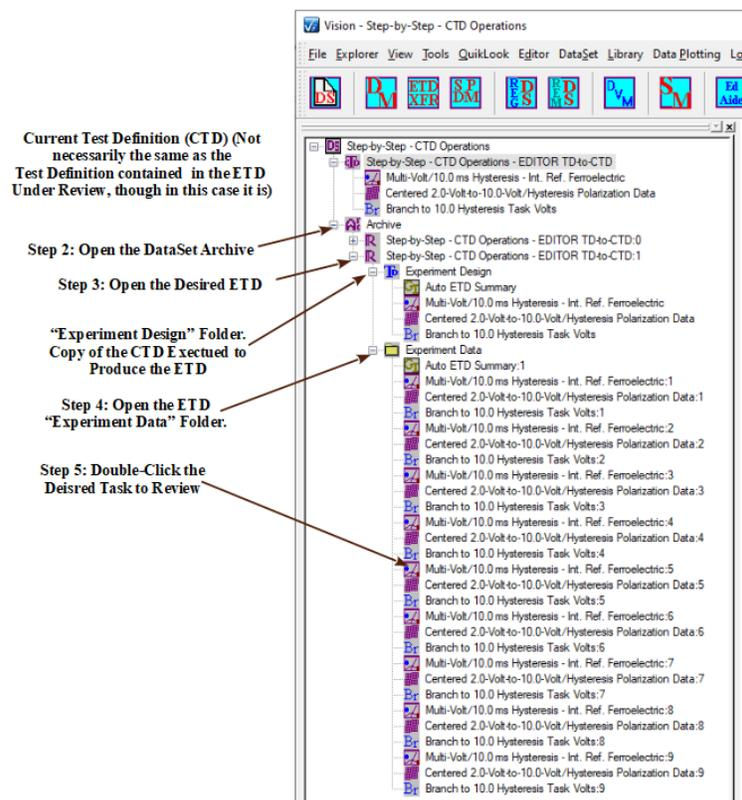

Figure 1 - Anatomy of the ETD - Accessing Tasks in the DataSet Archive.
Step 3: Open the Desired ETD. Two Folders will appear. The "Experiment Design" folder contains a copy of the CTD that was executed to create the ETD. This folder allows the ETD's Test Definition to be moved to the EDITOR, back to the CTD or to the Customized Tests TASK LIBRARY folder. The "Experiment Data" folder contains an entry for each instance of every Task that was executed to create the ETD. **Note that the two folders may differ in length, as in Figure 1 , as the Branch Loop causes Tasks to be written to the "Experiment Data" folder multiple times. This necessitates the inclusion of the "Experiment Design" folder, since the original experiment cannot be recreated from the "Experiment Data" Task list.**